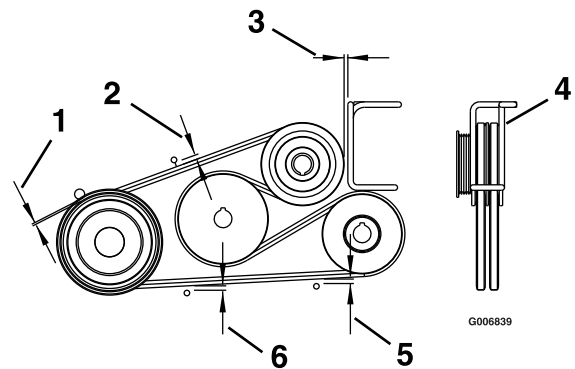

Figure 54
- Adjust belt guides as shown in Figure 54.